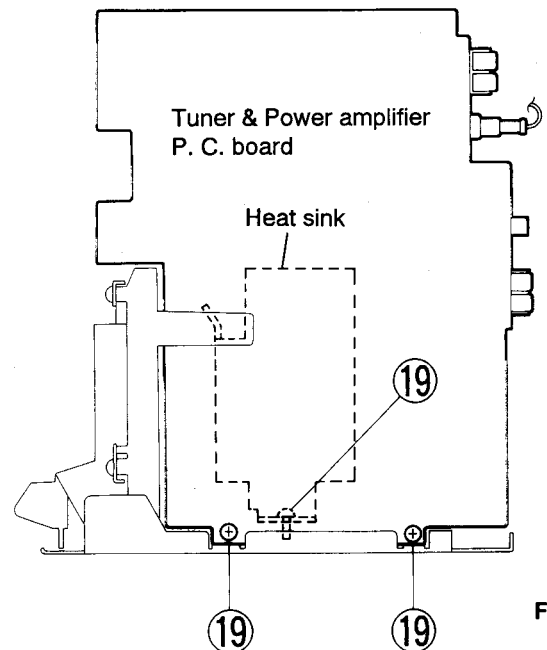

Fig. 5-18
**How to Remove the Tuner & Power Amplifier P.C. board** (Refer to Figs. 5-18 and 5-19)
4. Remove the three screws (19) retaining the tuner & power amplifier P.C. board.